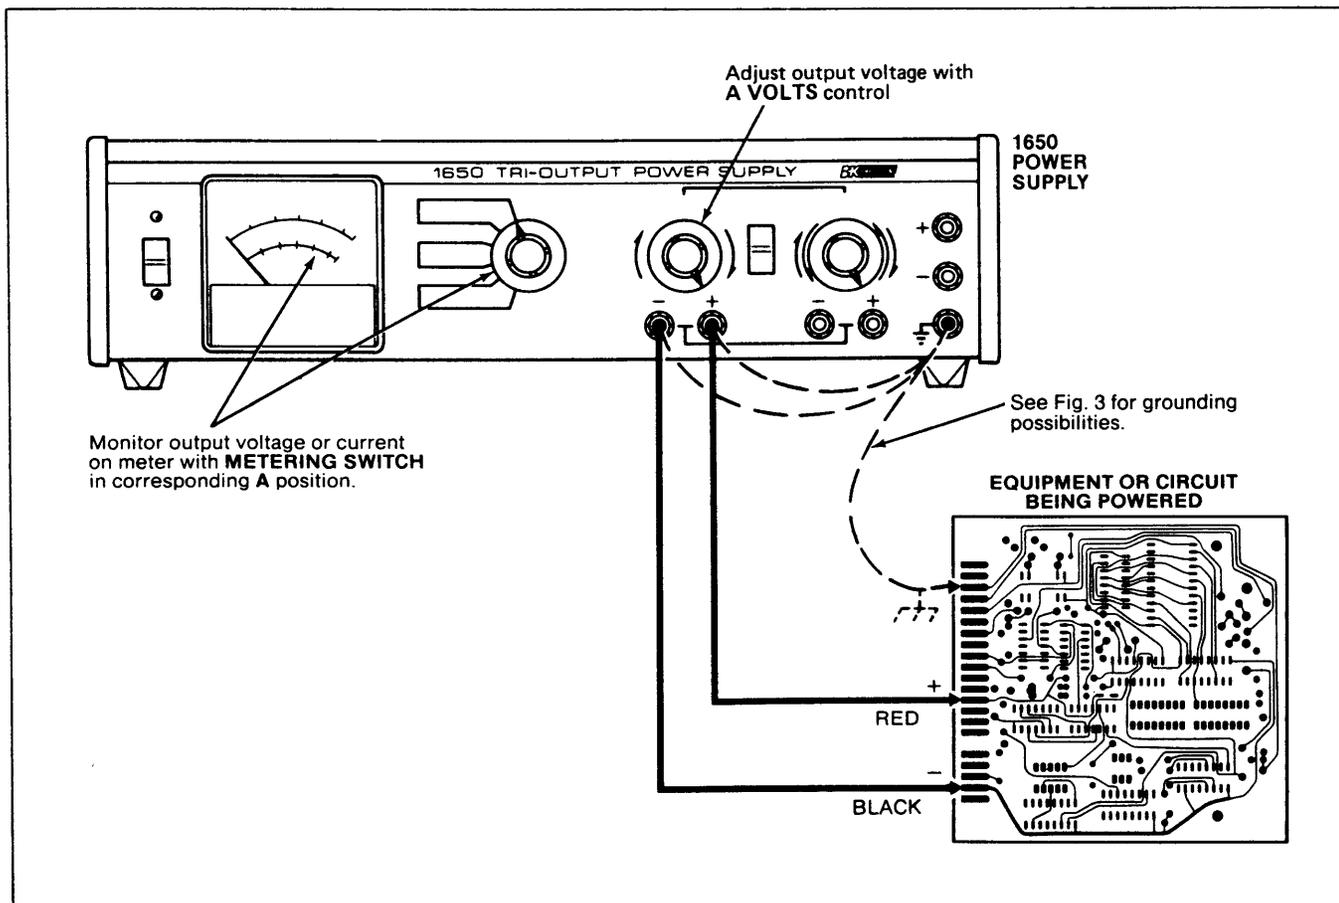

Fig. 5. Typical use of A supply.
- Connect the positive and negative polarity of the circuit being powered to the (+) and (-) terminals of the A supply, respectively, as shown in Fig. 5.